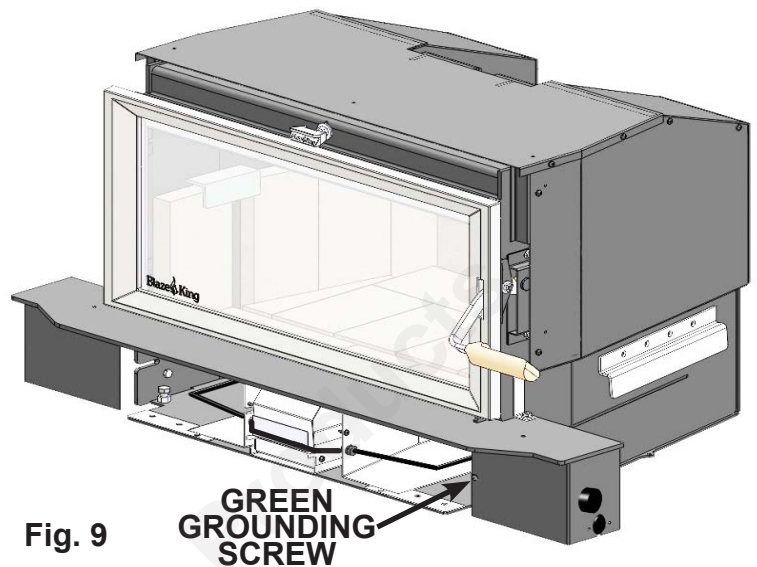

Fig. 9
- Ensure wiring is run above the protruding flanges. (**Fig. 9**) Complete the wiring assembly by connecting the loose end of rheostat to power cord. Then connect other loose end of power cord to loose end of fan interconnect wire harness. Finally, using supplied ground screw, fasten power cord and interconnect ground wire to ground hole on front of lower shroud.